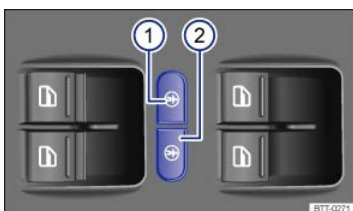

Fig. 24 In the driver door: Buttons for the electric child safety locks.
The electric child safety locks keep the rear doors from being opened from the inside, so that children cannot open them accidentally. The rear power window switch for the selected side is also disabled. The controls for the power windows and door locks can be operated separately (left or right) to prevent restrictions being placed on an adult passenger seated in the back with a child. The left button ⇒ Fig. 24① and the right button ② switch the child safety lock on for either the left or right side, respectively.
Activate:	Press the left button or the right button, light comes on ⇒ <a href="#">Fig. 24</a> .